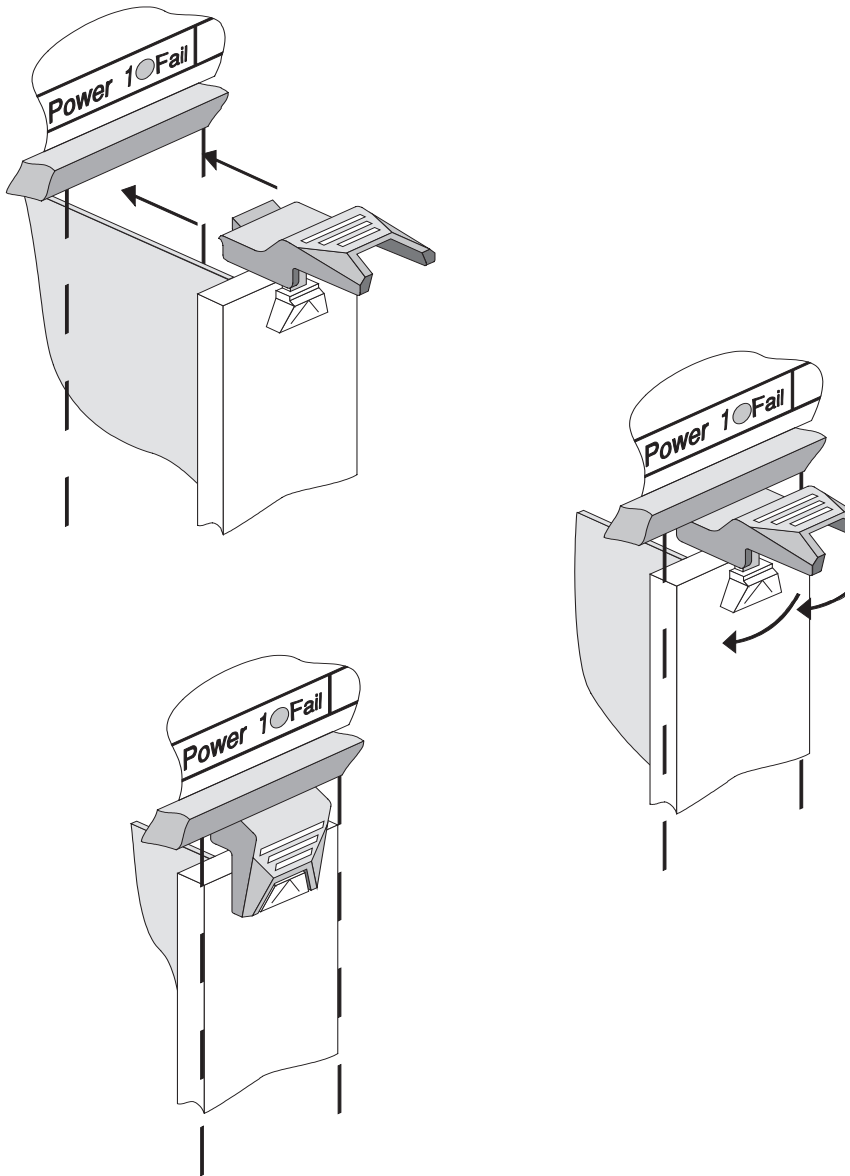

Figure 2-4 Locking the PSU in position
- 5 Raise the ejectors at the top and bottom of the PSU to the open position. See Figure 2-4. With the unit located in the slot runners, guide the power supply unit into the chassis until the hook on the top of the ejector locates under the edge of the chassis. See Figure 2-4. Ensure that the ejector at the bottom of the PSU is in a similar position.
- 6 Simultaneously, press the ejector flaps firmly down into the closed position. See Figure 2-4. Check that the module has been properly seated by placing both your thumbs on the front panel and firmly pushing the module home. Check that the module front panel is flush with the chassis and surrounding modules.